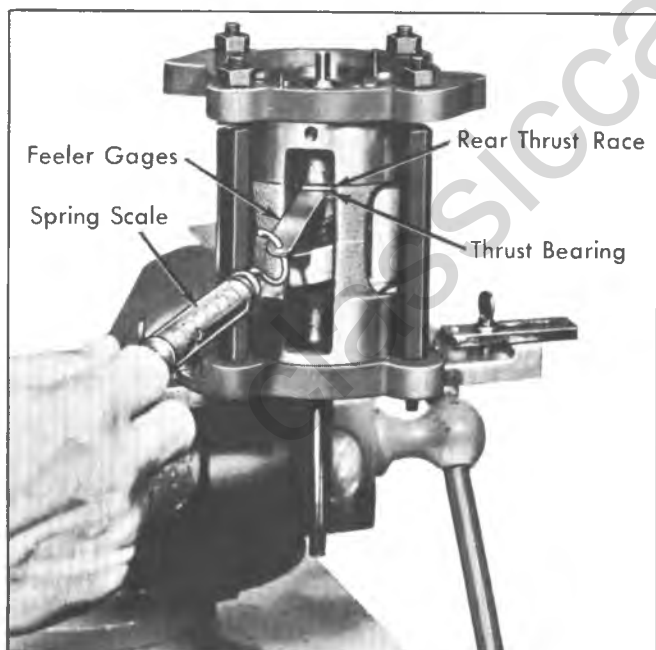

Fig. 24—Checking Clearance Between Rear Thrust Bearing and Outer Thrust Race
14. The next gauging operation is to determine the space between the REAR thrust bearing and the upper (outer) rear thrust race. Use a suitable combination of feeler gauge leaves so that 4 to 8 oz. of force is required to pull gauge free (fig. 24). Select a numbered thrust race to correspond to this feeler gauge reading and place this race in parts tray in the rear thrust race compartment.